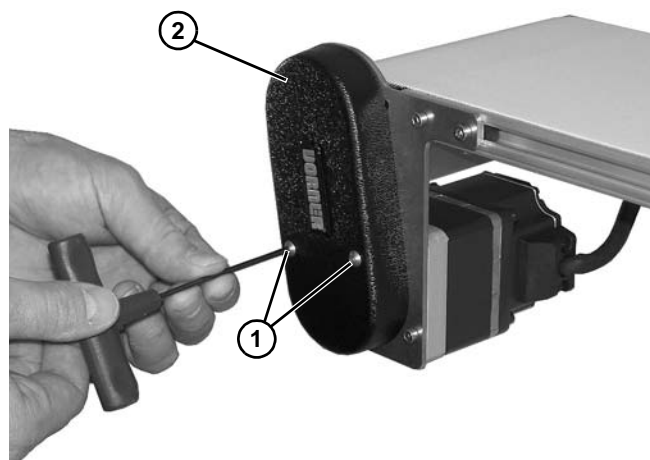

Figure 2
1. Remove two (2) screws (Figure 2, item 1) and remove cover (Figure 2, item 2).